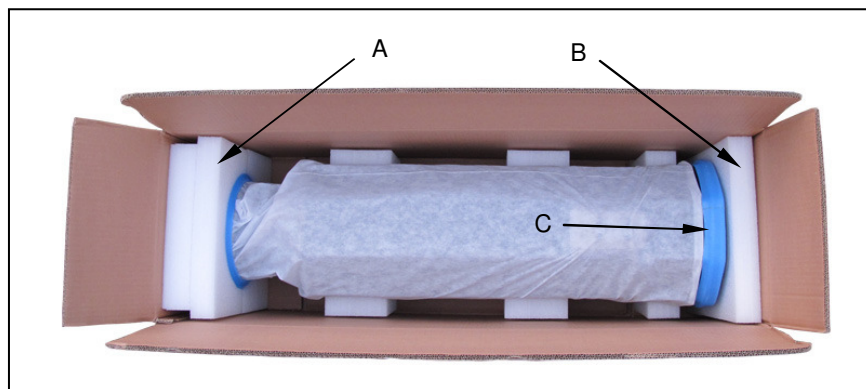

Figure 4. HRS-130 shipping carton
4. Remove the foam packing pieces from the top of the loudspeaker and between the base of the cabinet and the carton – A and B figure 4 – then, with the help of another person, lift the loudspeaker out of the carton by holding around the top and bottom of the cabinet and stand it up on its base.
5. Remove the blue protective ring from the top of the loudspeaker and pull the white cover up and off the loudspeaker. Leave the blue ring – C figure 4 – in position for the time being, as this will protect the base of the cabinet while it is being moved.